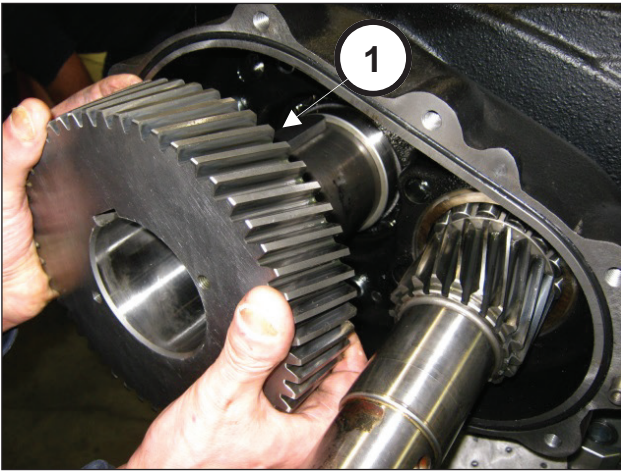
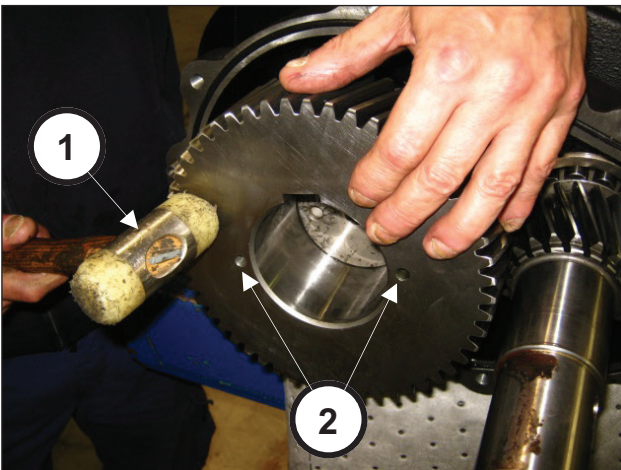

Fig. 66
Fig. 67
Insert the ring gear on the shaft (pos. ①, Fig. 66) and move it to end stroke using an extractor hammer (pos. ①, Fig. 67).
**The ring gear must be assembled making sure that the two M8 holes (to be used for extraction) are facing the exterior of the pump (pos. ②, Fig. 67).**